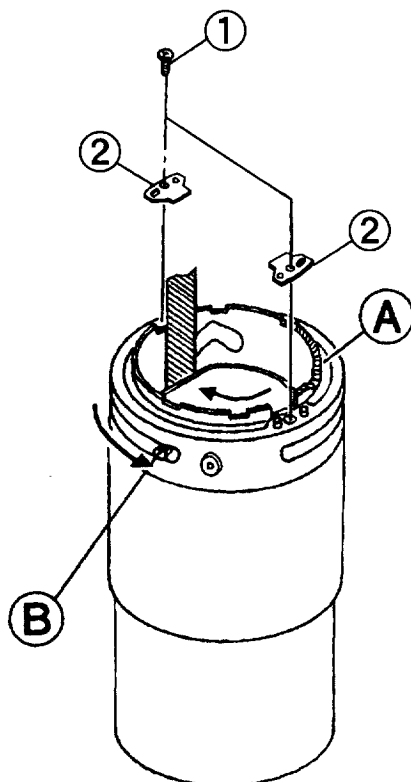

Fig24
(12) Set the SHUTTER UNIT and the 3RD. LENS UNIT at TELE position by turning the 2ND, 3RD. LENS CAM RING. (Fig. 24, (B))
(13) Set the ZOOM at TELE position by turning the GUIDE PIN. (Fig. 24, (B))
(14) Set two CAM DRIVE PLATE (②) and tighten two SCREWS (①). (Fig. 24)